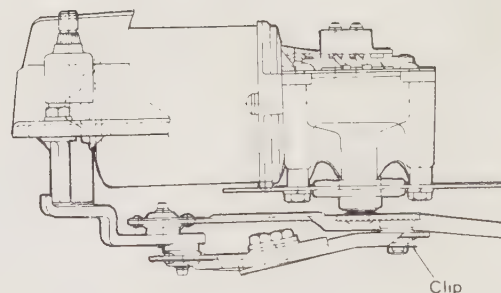

Fig. 10.24. Removing the securing clip
- 11 Remove the three wiper motor mounting bolts and pull out the wiper motor and link assembly. Separate the motor and link by removing the securing clip, see Fig. 10.24.